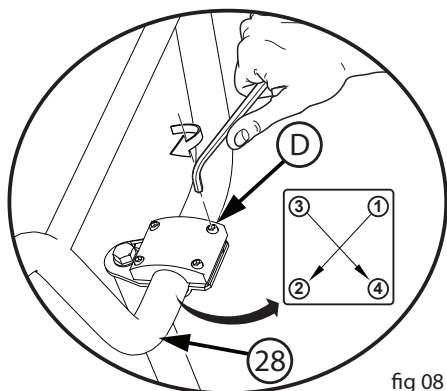

fig 08
3. Tighten the Stem Bolt (C) just enough to hold it in position.
4. If necessary, loosen the Handlebar Screws (D) and rotate Handlebar (28) into a comfortable riding position.
5. Tighten Handlebar Screws (D) just enough to hold it in position (fig 08).